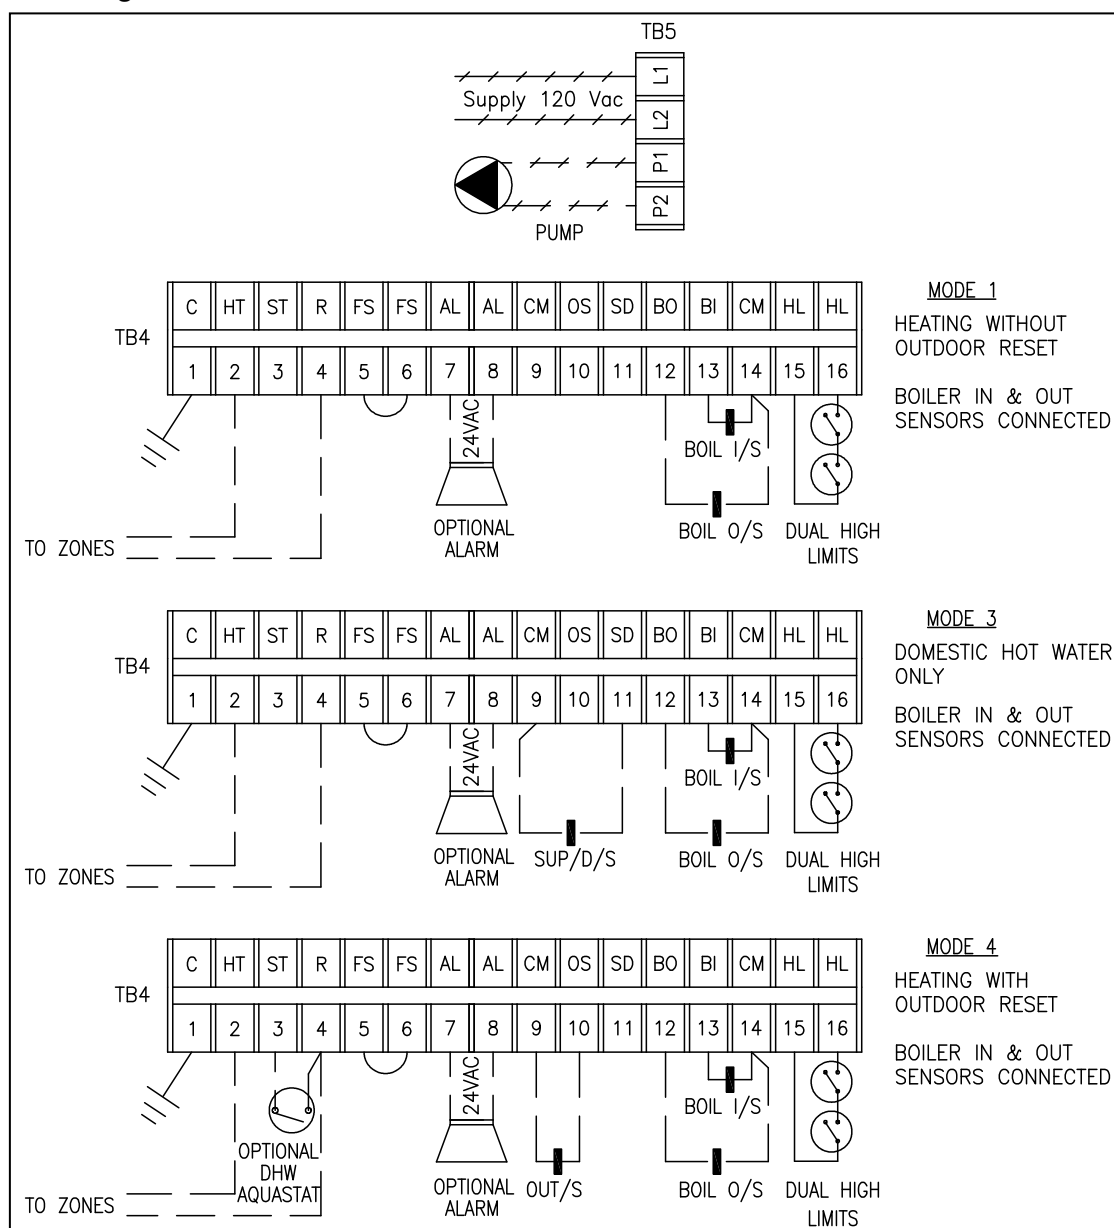

Figure 3 - Terminal blocks
1. Press and hold three keys found below the LCD screen of the controller until “Adjust” is displayed (Figure 3). In adjust mode, enter the desired settings for your heating application (see BC-1 Boiler Controller Manual for more information). (Note: This boiler is also equipped with a non-adjustable, high-limit temperature device set at 239°F as safety limit control. The high limit temperature device has an automatic reset function.)